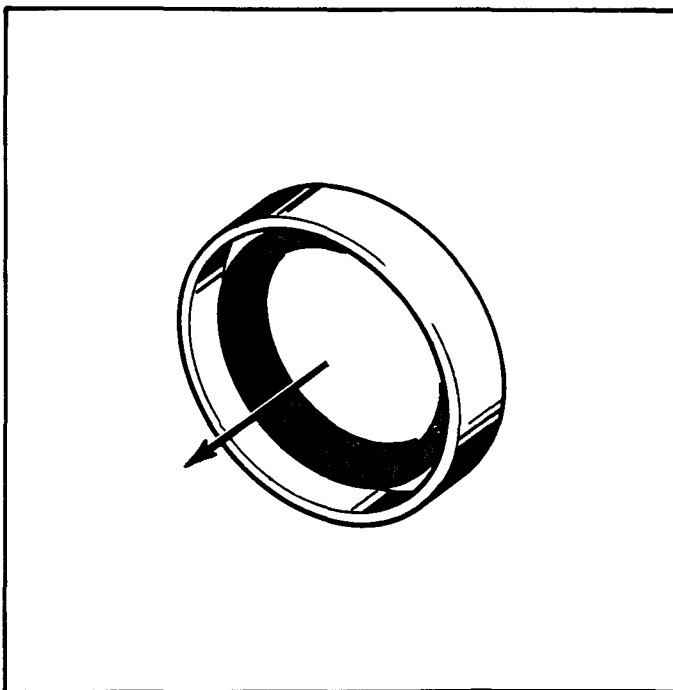

FIG. E-5 INSTALLING GREASE SEAL
**NOTE:** When installing grease seals into hubs, insert the grease seals, flange side inward (Fig. E-5), tap lightly and evenly around the seal until the seal is flush with the outer side of the hub assembly. Lubricate seal surface. The hub assembly may be reassembled to the axle assembly using the reverse procedure. When reinstalling the jam nut (9) on the axle shaft, position the inside jam nut against the spacer, tighten the nut until the hub becomes difficult